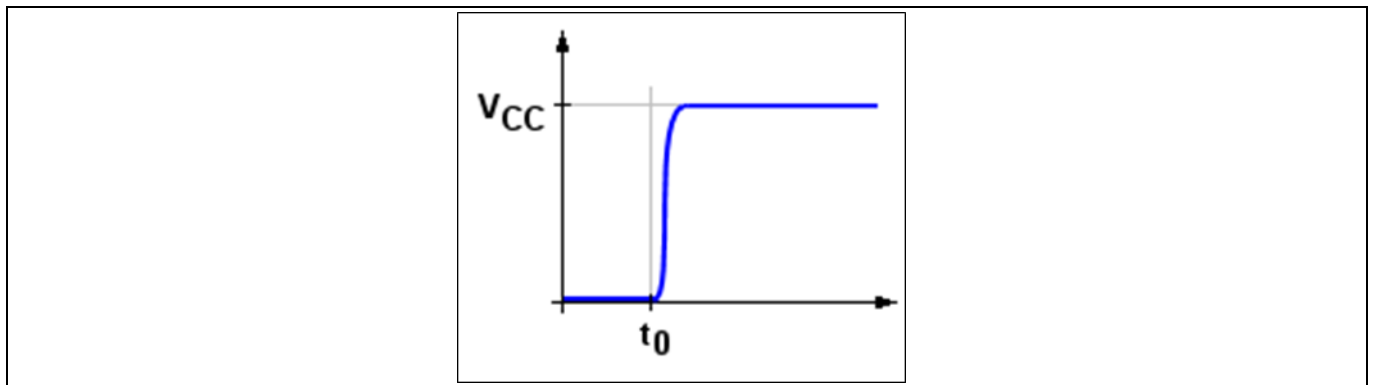

Figure 7 Signal rise after closing the switch at point (A)
By closing the switch SW at time t_0 , as shown in Figure 7, the voltage can be measured at point (A).